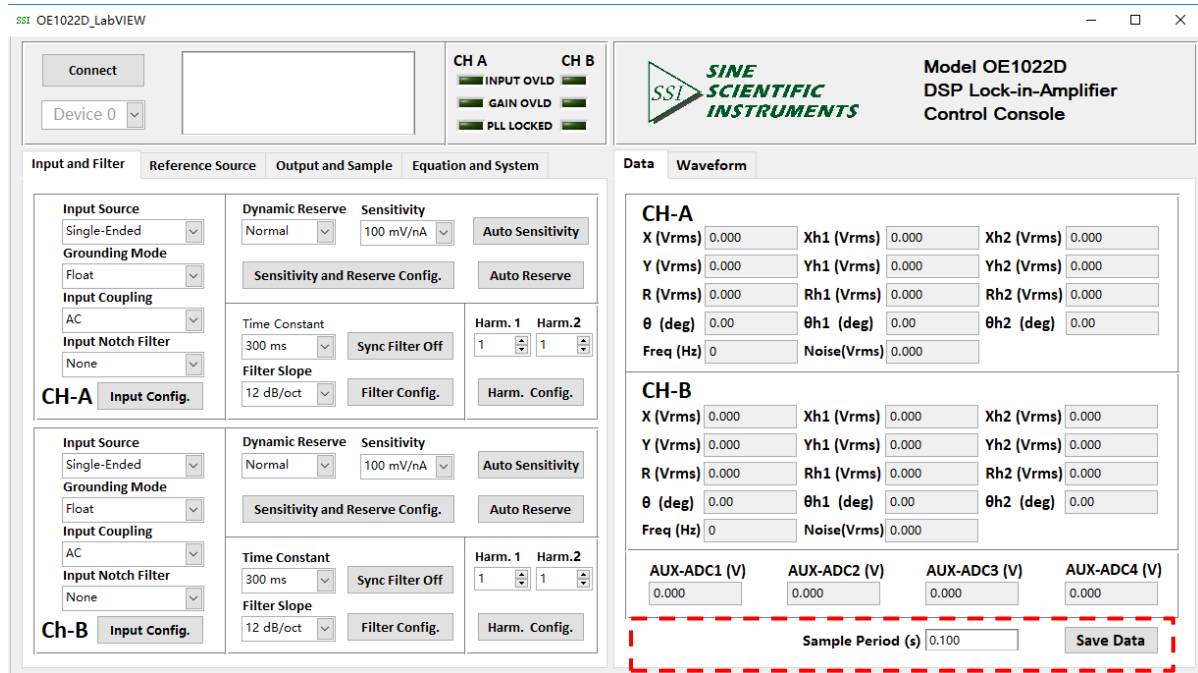

Fig.73 The Configuration Area of Data Storage
2. When the software is executing, click the button **Save Data** in the red box in Fig.73. After clicking this button and it displays **Saving...**. The software is saving the current collected data.
1. According to table 13, select suitable options as required in tab page 'Input and Filter', including 'Input Source', 'Grounding Mode', 'Input Coupling' and 'Input Notch Filter'. Leave other options as initial state for now as shown in Fig.73. Click the button  to finish configurations.